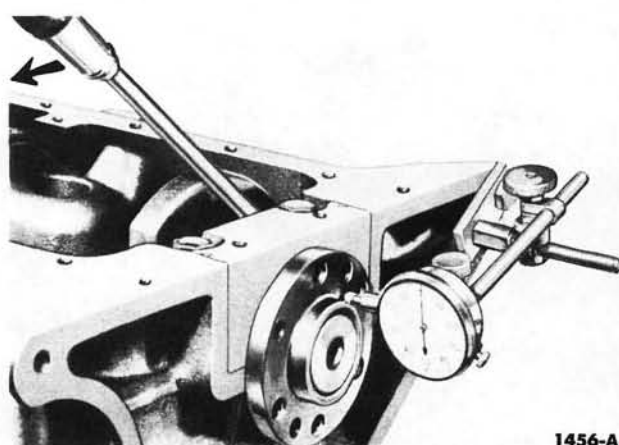

FIG. 39—Crankshaft End Play
5. Force the crankshaft toward the rear of the engine. Install a dial indicator so the contact point rests against the crankshaft flange and the indicator axis is parallel to the crankshaft axis (Fig. 39). Set the dial on zero, then push the crankshaft forward and note the reading on the dial.